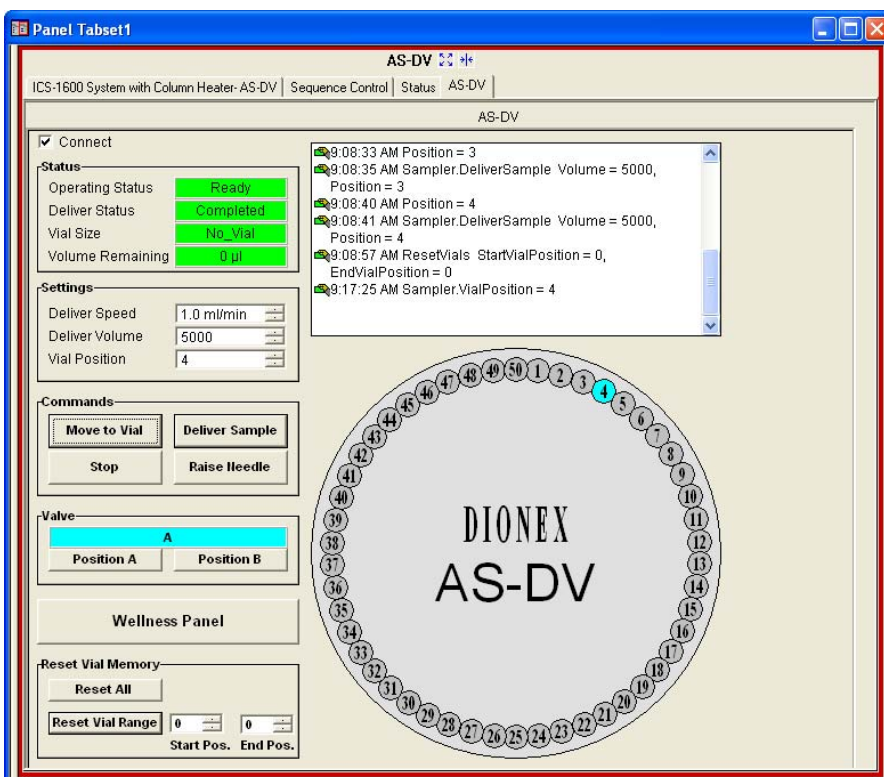

Figure B-10. Example Chromeleon 6.8 Panel Tabset: Dionex AS-DV Control Panel
3. To display the Dionex AS-DV Control panel, click the **AS-DV** tab (see Figure B-10).